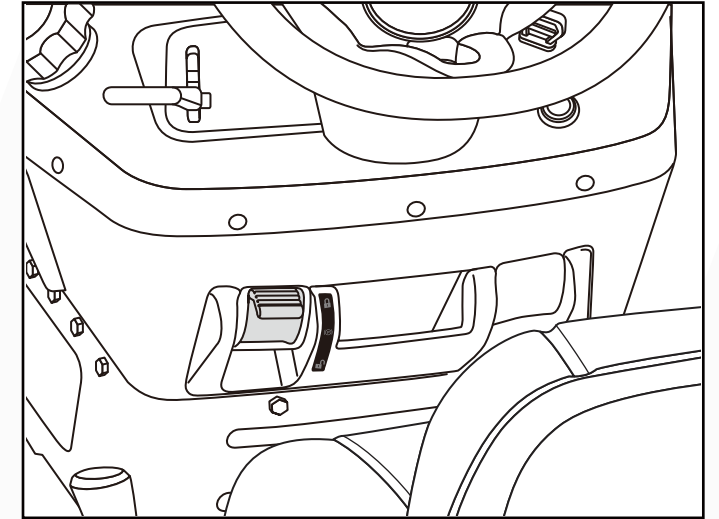

Fig. 19
2. Raise the parking brake lever all the way up into the lock position. (Fig. 19)